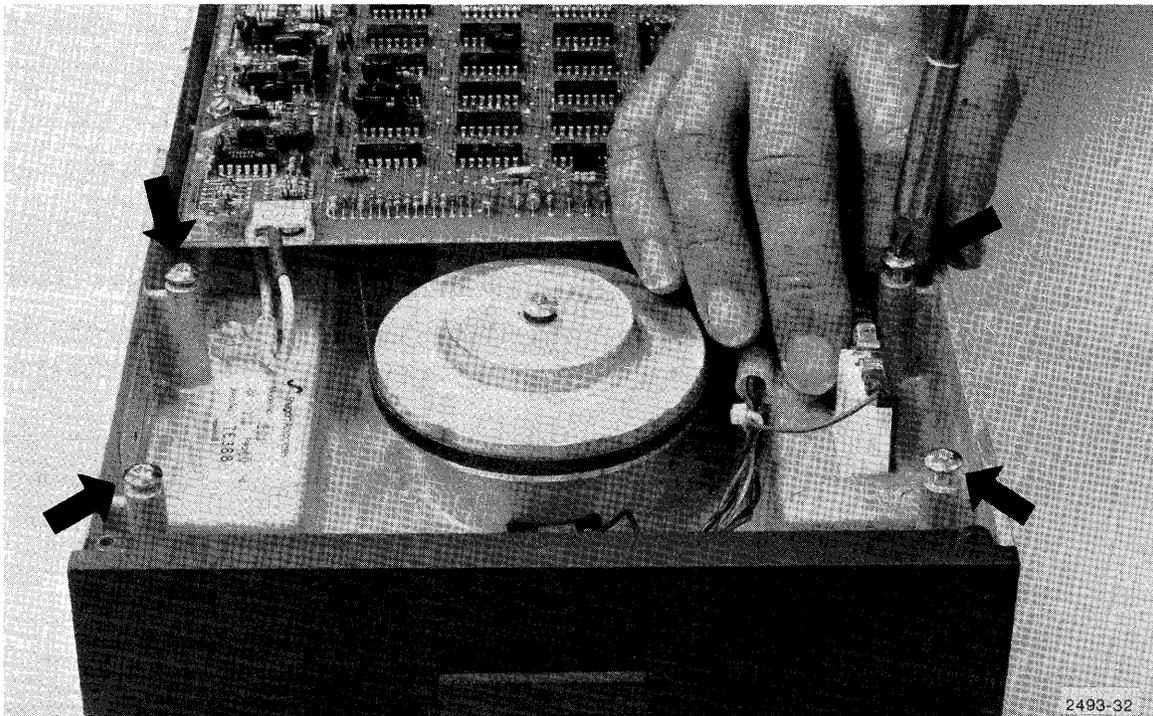

Figure 7-6. Removing screws from kit drive chassis.
- j. Remove four screws from kit drive chassis (Figure 7-6).